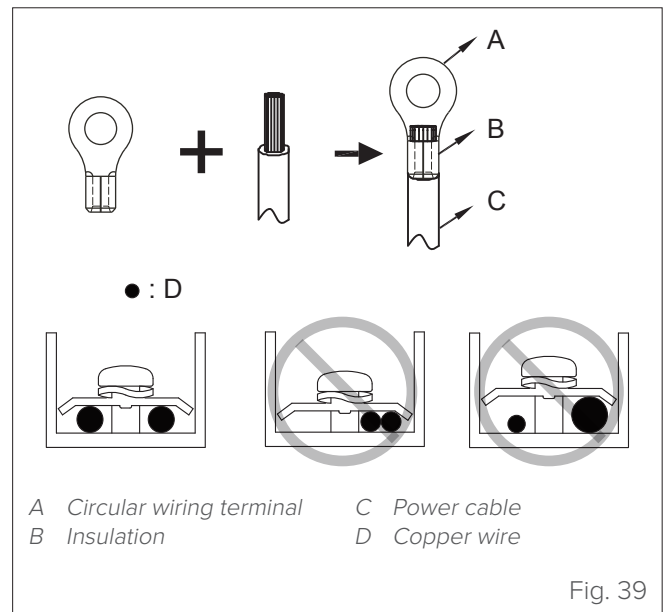

Fig. 39
To connect to the power supply terminal, use the insulated ring terminal “Fig. 39”.
- Do not connect two power cables with different diameters to the same terminal (this can cause the cables to overheat due to loose wiring) “Fig. 39”.